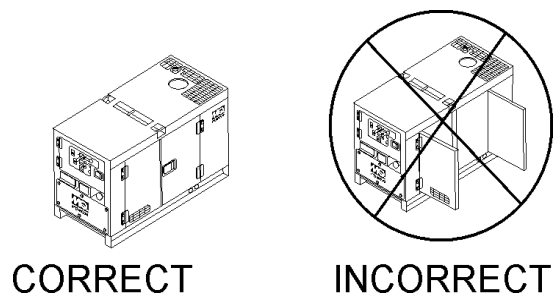

Figure 39. Engine Enclosure Doors
4. Close all engine enclosure doors (Figure 39).